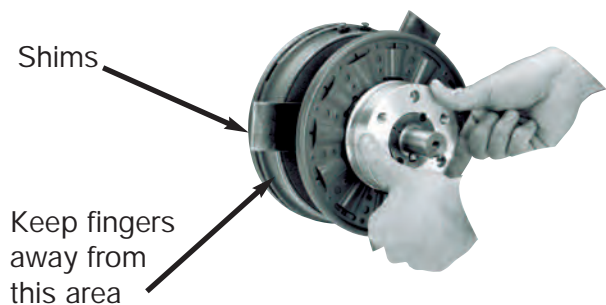
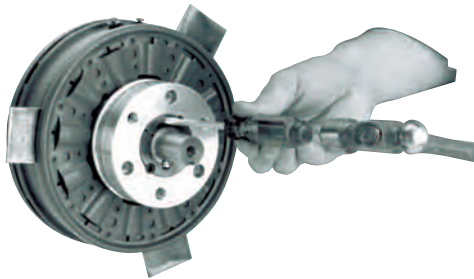

Figure 4 - Installing armature with shims in place.
Figure 5 - Seating the taperlock bushing.
Step 9: **Make sure no power is applied to the brake.** Place three steel shims 120 degrees apart on the magnet as shown in Figure 4.
Slip the armature hub assembly onto the motor shaft until the armature makes contact with the shims. (See Figure 4) Using a drift, lightly tap on the taperlock bushing at several points around the circumference with a small hammer until it will not slide further onto the shaft. (See Figure 5)
Step 10: Using a torque wrench, tighten the hub bushing screws (Item 12) alternately and evenly until tight. Place a drift against the large end of the bushing at several points around the circumference and tap it lightly with a small hammer. (See Figure 5) Repeat this alternate tapping and re-tightening until the specified torque no longer turns the screws after tapping. Tighten the screws to 15 lb.ft. torque. The gap between armature and magnet must be 0.062 inch to 0.125 inch. If the gap is outside of that range, reposition the armature hub assembly as described in Steps 11 & 12; otherwise, go to Step 13.